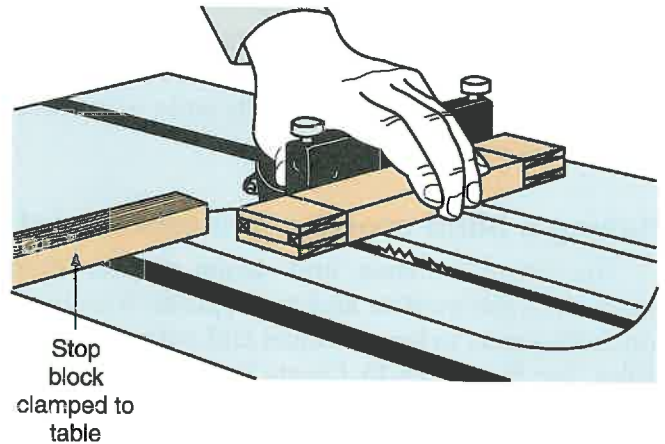

Figure 29-40. Making shoulder cuts.
8. Set the blade height at 3/16" (5 mm) (one-fourth the workpiece thickness). See Figure 29-40.